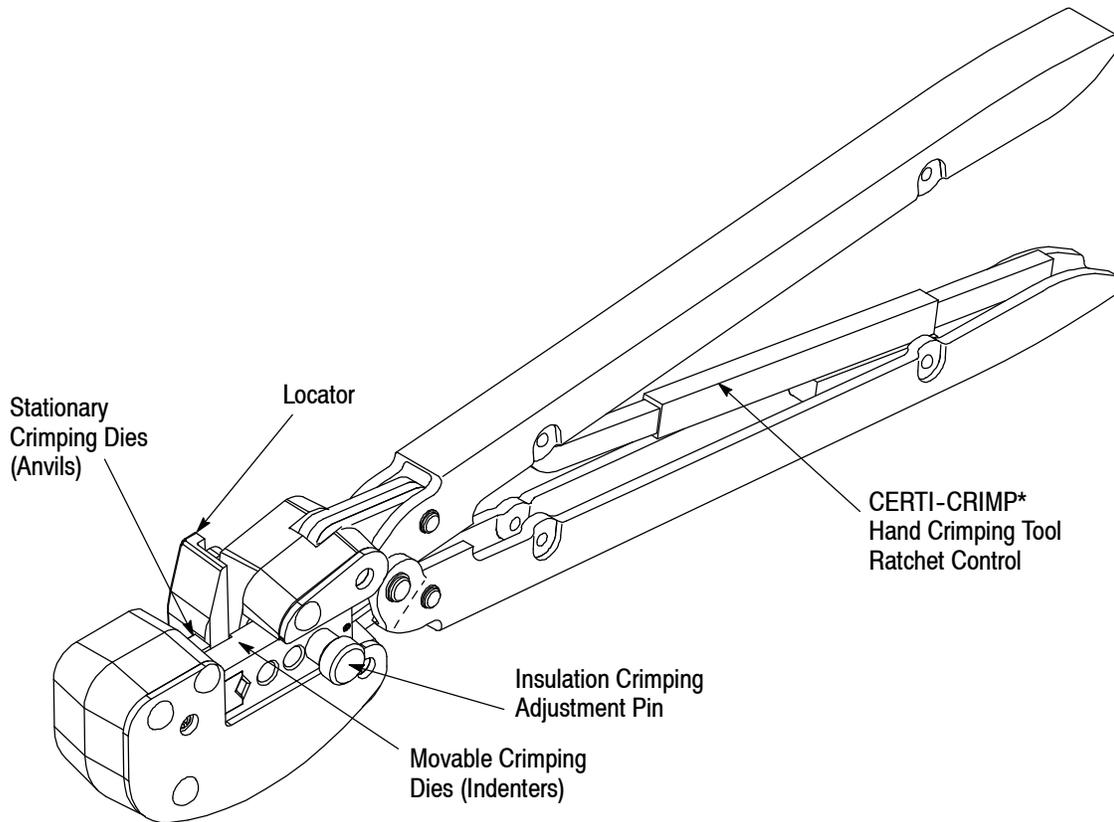

Figure 1
Each tool features a head containing two stationary crimping dies (anvils) and two movable crimping dies (indenters), a locator, an insulation crimping adjustment pin, and a CERTI-CRIMP hand crimping tool ratchet control. See Figure 1.
1. Insert the insulation crimp adjustment pins into the No. 3 position. Refer to Figure 1.